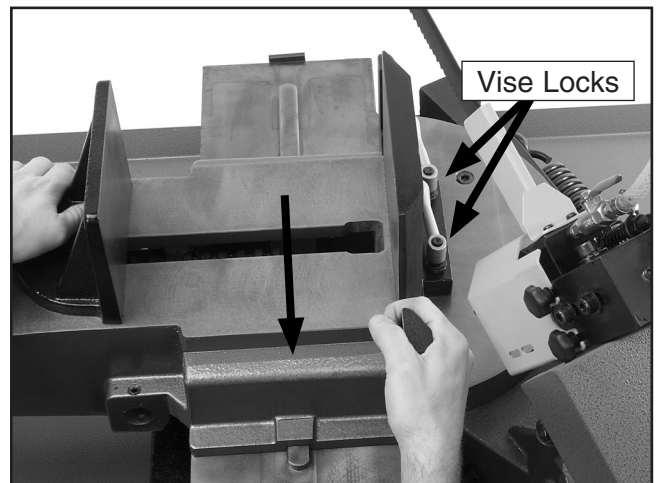

Figure 15. Changing vise positions.
3. Loosen the two vise locks at the base of the vise and remove the upper chip tray (see **Figure 15**).